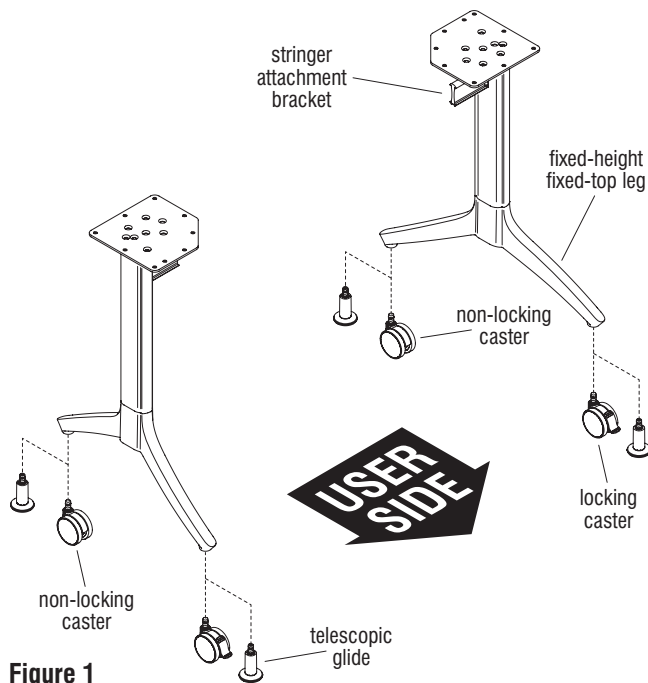

Figure 1
the legs so the stringer attachment brackets on each leg post are inline to each other, then identify the side of the leg pair that has a larger gap between the feet. The side with the larger gap is the user side and eventually will be placed at the user side of the tabletop (Figure 1 & Detail A).
4. Locate the locking and non-locking casters. Locking casters are to be installed to the front, user side of each leg, and non-locking casters are to be installed to the rear of each leg. Insert the stem of one locking and one non-locking caster into the caster mounting holes at the underside of each foot. Press in casters fully until each caster is snug to the bottom of the foot (Figure 1).
6. Insert the stem of two telescopic glides into the mounting holes at the underside of each foot. Press in fully until each glide is snug to the bottom of the foot (Figure 1).